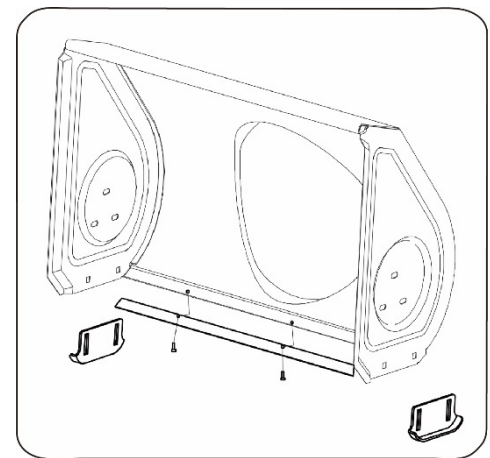

Fig. 20
1. Remove the four bolts and nuts that secure them to the snow blower. See figure 20.
2. Mount the new skid shoes with four bolts (two on each side) and nuts. See figure 20.